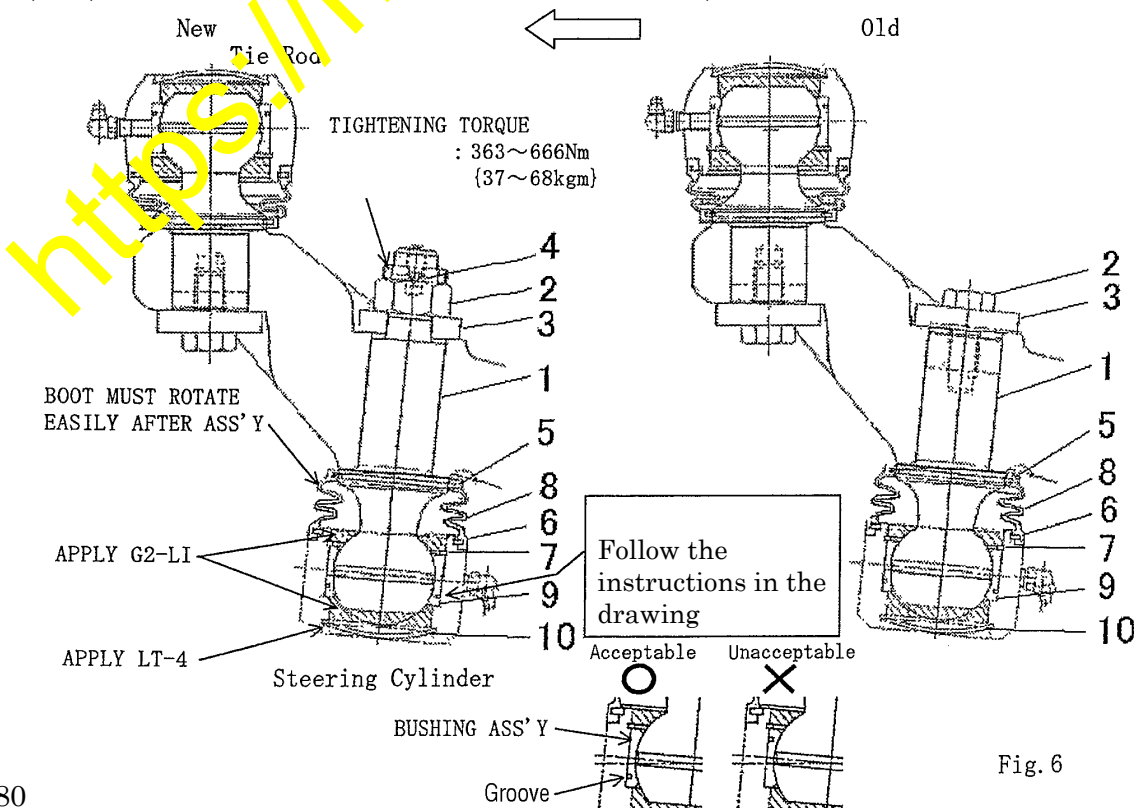

Fig. 6
Remove the current type parts No. 1 thru No. 10 (excluding No. 4) shown in Fig. 6.
Regarding the installation procedure and precautions, refer to the drawing shown below (Fig. 6) and Section 5-1 (3).